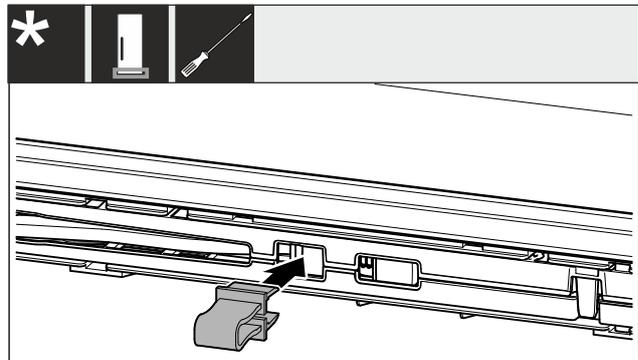

Fig. 4
- ▶ Latch a safeguard into the opening Fig. 4 ().